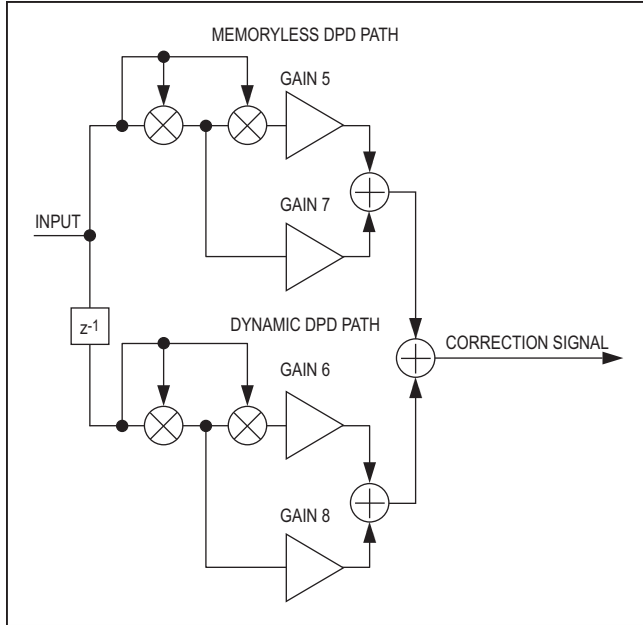

Figure 14. PA DPD Block Diagram (Correction for HD2/IM2, HD3/IM3 with Memory Effect)
- **PA DPD:** This block allows correction for HD2, IM2, HD3, and IM3 that can be represented with the diagonal kernel of a third-order Volterra series. This is intended for correction of “classical” second- and third-order nonlinearities in the DAC and the following amplifiers. The block diagram of this block is shown in Figure 14.
The PA DPD block (Figure 14) corrects for second- and third-order distortion products in the DAC and following